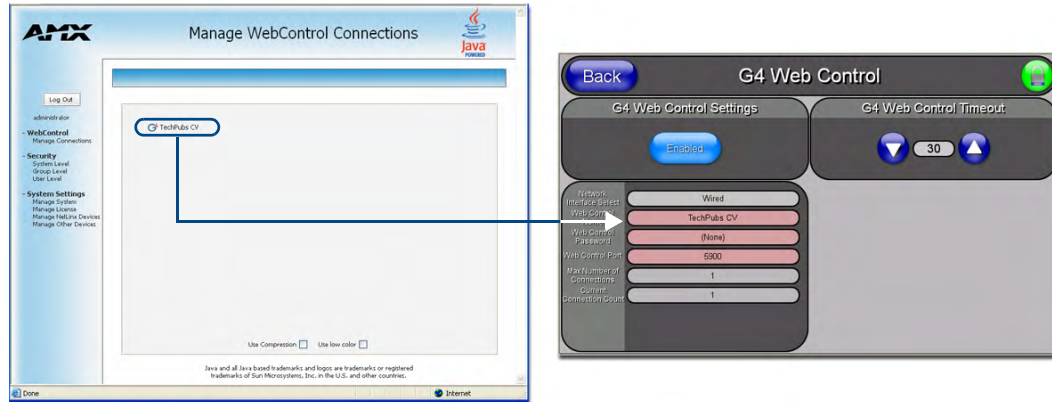

FIG. 43 Sample relationship between G4 Web Control and Mange WebControl Connections window
9. From the Web Name keyboard, enter a unique alpha-numeric string to identify this panel. This information is used by the NetLinx Security Web Server to display on-screen links to the panel. *The on-screen links use the IP Address of the panel and not the name for communication (FIG. 43).*